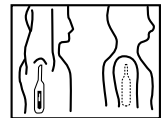

Figure 3
**Axillary Use:** Wipe armpit with a dry towel. Place the probe in the patient's armpit (Figure 3) and keep the patient's arm pressed firmly against the body. The peak temperature should be reached in approximately 40 seconds. Improper placement of the probe and closure of the arm against the body could result in a longer time for a reading.